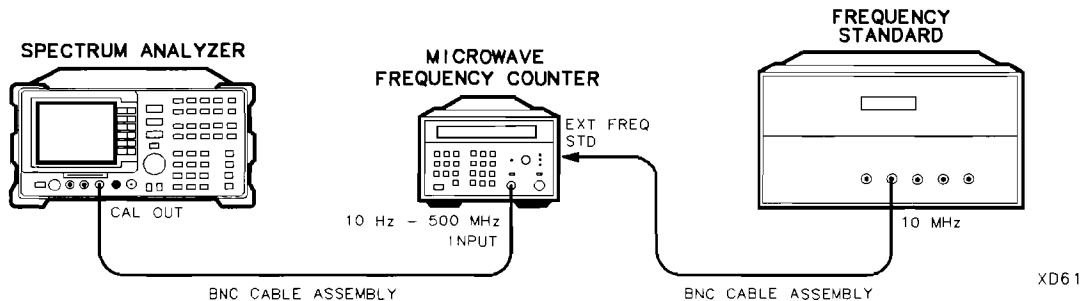

Figure 2-1. 10 MHz Reference Test Setup
1. Connect the equipment as shown in Figure 2-1.